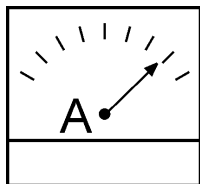

Figure 56. Ammeter (Load)
15. Observe the generator's ammeter (Figure 56) and verify it reads the anticipated amount of current with respect to the load. The ammeter will only display a current reading if a load is in use.